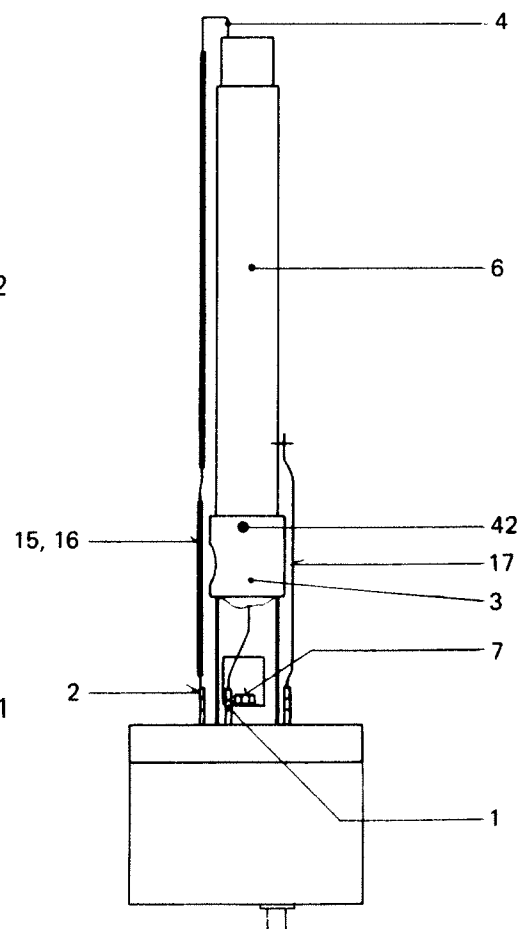

Fig. 6.2
- b) Unscrew and remove the shielding (67)
- e) Remove the wiring connections (4/ Fig. 6.2) on the ion source or the fixation screws for the ion source.
- f) Carefully pull off the connector (2) for the wiring (15, 16) using pliers
- g) Disconnect the RF supply (17) to the mass filter
- h) Remove the screw (42) and pull the mass filter out of the tube (3)
- i) Remove hex screw (7)
- d) Pull the connector(s) (1 / Fig. 6.2) for the deflection plates off the feedthroughs.